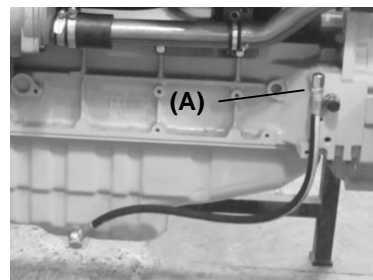

Fig. 4.1
This operation is done by oil drain pump (see Fig 4.1). Dismount the plug (A) and fit the hand oil pump. Connect a hose from the oil drain pump to a container. Process the old oil in accordance with the local regulations.